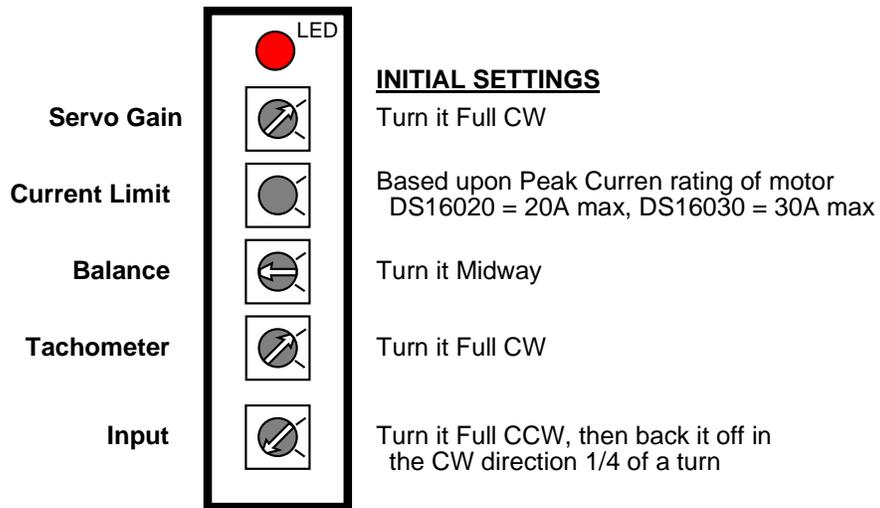

Figure 6-22. Amplifier Potentiometer Layout
- b. Make ballpark adjustments to the potentiometers on the Aerotech DS16020/16030 amplifier as shown in Figure 6-22.